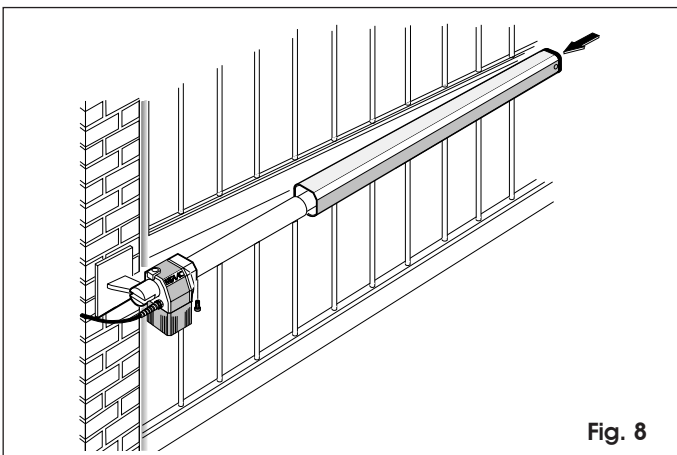

Fig. 8
- 12) Slide the cover on the operator as shown in fig. 8.